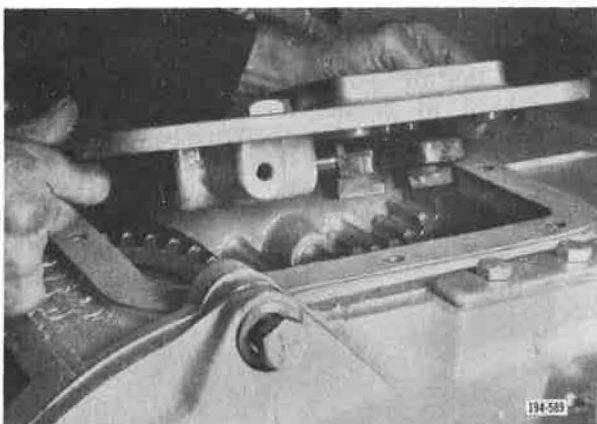

Figure 5-553. Installing Cover
29. Install front case top cover. See Figure 5-553.